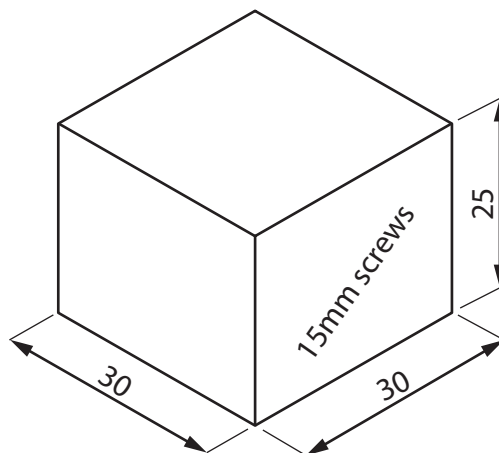

Figure 8
- 5 Figure 8 shows a design solution for a screw tidy case together with some additional information.